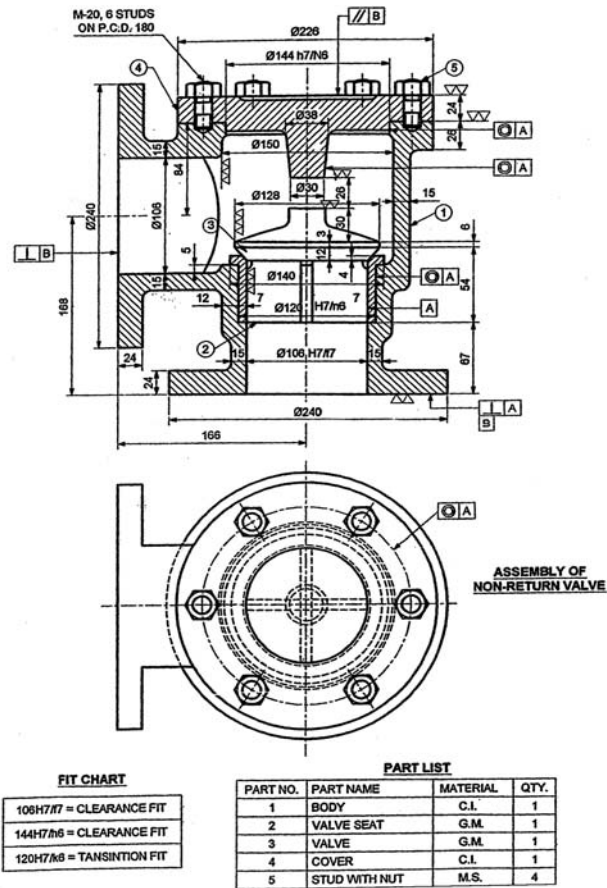

Fig. No. 07
- b) Fig. No. 07 shows assembly of Non-Return valve. Draw detailed drawing of following.